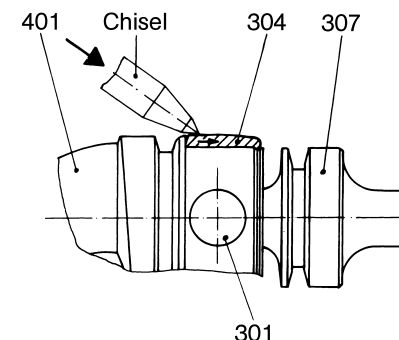

Figure 2: Dismounting the retaining sleeve.
- By means of a screw driver, lift cover sleeve (308) and withdraw axially towards the coupling rod (307).
- Drive retaining sleeve (304) over the collar of the coupling rod (307). In doing so, do not deflect coupling rod (307) (please refer to Figure 2 below).